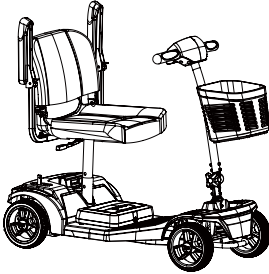

Figure 9:
1. Lift the armrests up for easier access to the seat lever(see Figure 9)